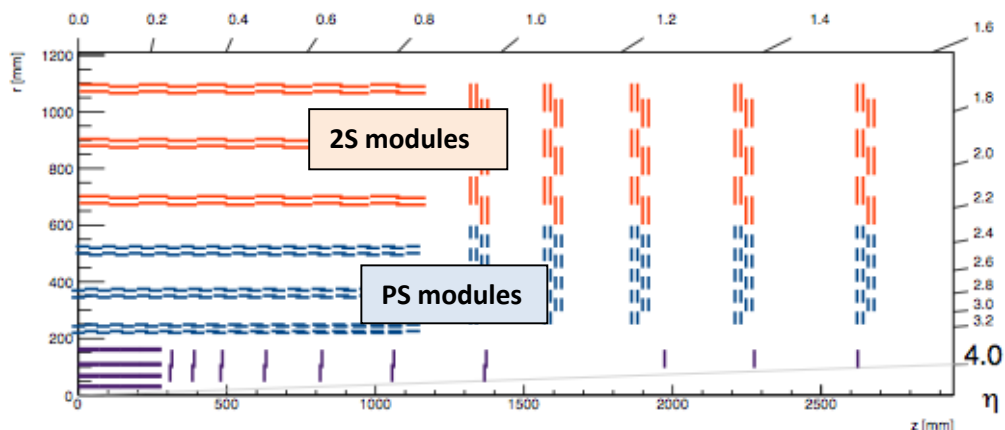

Fig. 2: Tracker layout
The tracker will be composed by two different kind of modules: Strip-Strip (2S) and Pixel-Strip (PS) Modules (Fig. 2). As their names say, the first one are made by two strip sensors, and they will be placed in the outer part of the tracker; and the second ones by one pixel sensor and one strip sensor, and they'll be in the inner part.